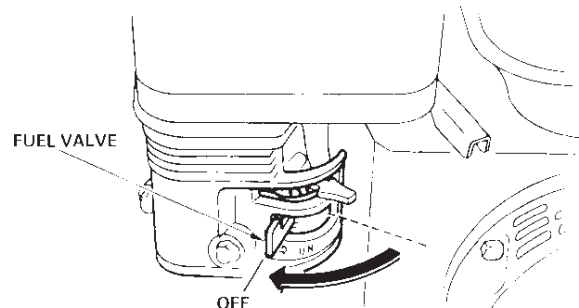

Figure 24. Fuel Valve Lever (OFF Position)
3. Close the **fuel shut-off valve** (Figure 24) by moving the fuel valve lever to the **OFF** position.